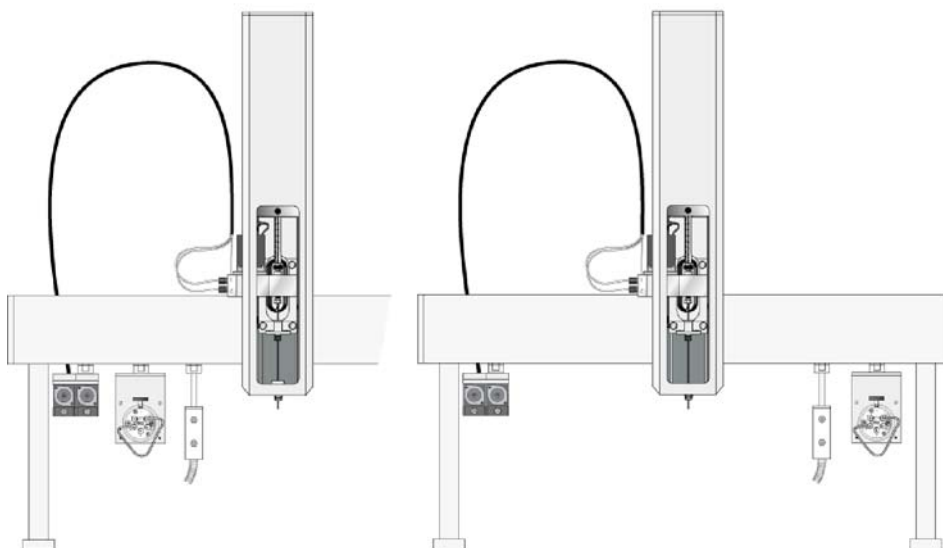

Figure 21 Mounting the DLW-2 Option Modules in combination with the Injection Valve
Figure 21 on page 71 shows two configurations for installing DLW modules, favoring a short connection from the injection valve to the other HPLC system components on the one hand, and always having the DLW Wash station close to the injection valve on the other. It is important that the DLW Pump Module, with the connected DLW tubing from the kit, always be attached on the far left side of the X-axis. Such a configuration also has the advantage that the waste tube from the injection valve can be connected to the front “Waste Inlet” of the Wash Station module. This waste tube is part of the DLW Option Kit.
- 2 Attach the holder to the X-axis at selected position as shown in Figure 21 on page 71.